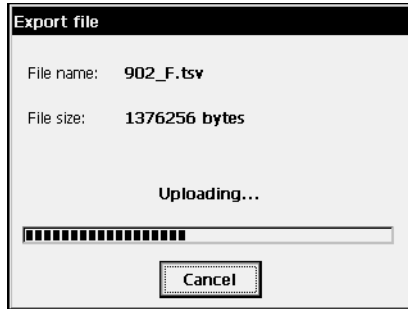

Figure 2-140. Export File
- **Finish:** opens the *Export File* screen reflecting status of exporting the file chosen (Figure 2-140).